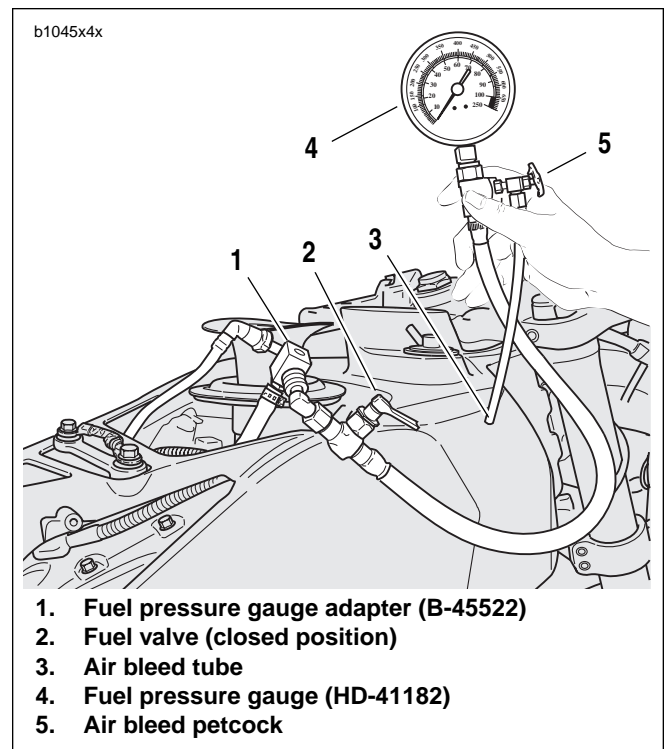

Figure 4-27. Fuel Pressure Gauge (Part No. HD-41182)
See Figure 4-27. Verify that fuel valve (2) and air bleed petcock (5) on the gauge are closed.
6. Attach FUEL PRESSURE GAUGE (Part No. HD-41182) (4) to fuel pressure gauge adapter (1).
8. See Figure 4-27. Pressurize the fuel system.
- b. Open fuel valve (2) on fuel pressure gauge to allow fuel to flow down the gauge hose.
- c. Position the air bleed tube (3) into proper container.
- d. Open and close the air bleed petcock (5) to purge the fuel pressure gauge and hose of air. Repeat this step several times until only solid fuel (without bubbles) flows from the air bleed tube.
10. See Figure 4-27. Turn engine off. Detach pressure gauge (4) from adapter (1).
- a. Open the air bleed petcock (5) to relieve fuel system pressure and purge the pressure gauge of gasoline.